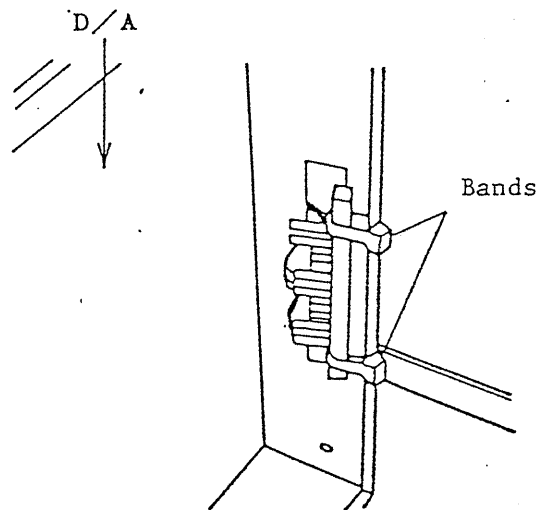

FIG. 9
- 6) Bind the unused connector with bands as shown in Figure 9.